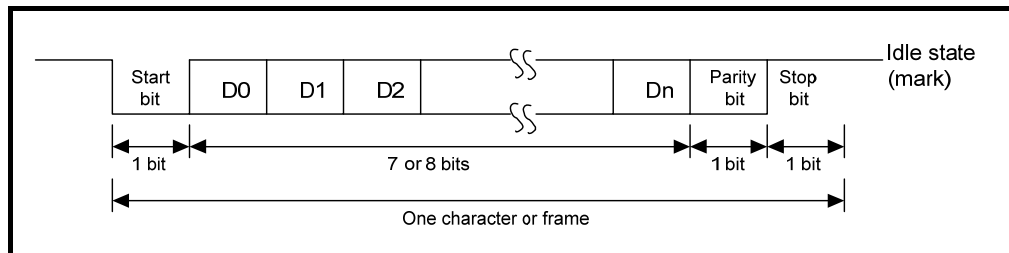

Figure 6-12b UART Data Format
4. Serially transmitted data in the following order from the TX pin (see Figure 6-12b above):